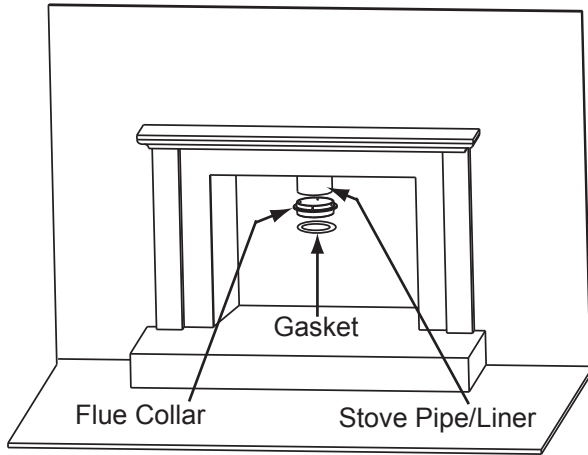

Figure 18.1
1. There are 4 already drilled holes in the flue collar 90 degrees apart. Attach the flue collar to the stove pipe/liner. If the seal is questionable use high temperature sealant such as stove mastic (**Figure 18.1**).